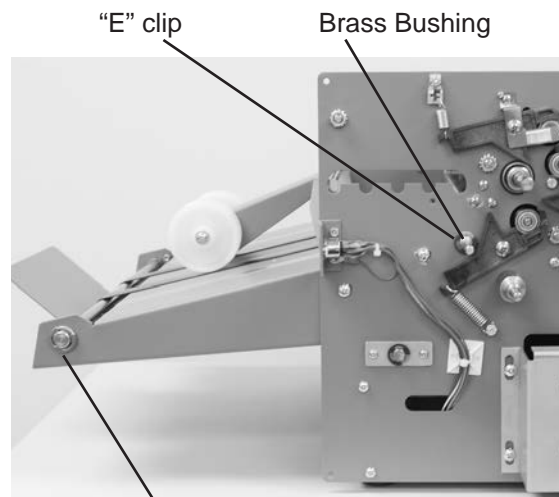

Fig. 21c
5. Remove one "E" clip from the lower stacker (Fig. 21c) shaft and slide the shaft out of the bushings.
10. Remove the "E" clip on the upper conveyor drive shaft (Fig. 21c).e non-operator side of the
11. Slide the drive shaft toward the non-operator side and remove the brass bushing from non-operator side of the conveyor drive shaft (Fig. 21c).